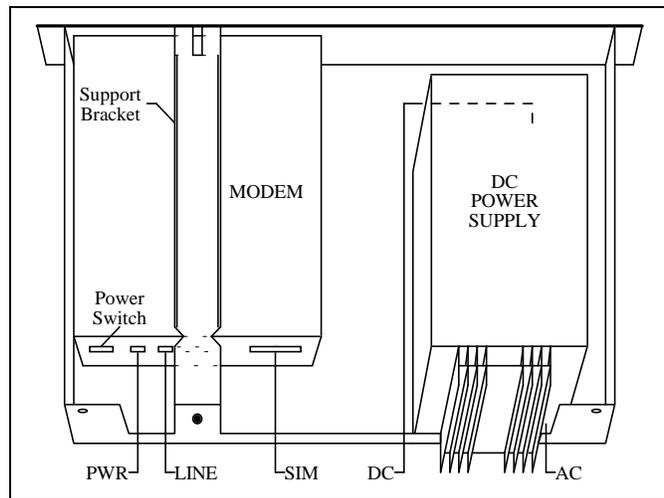
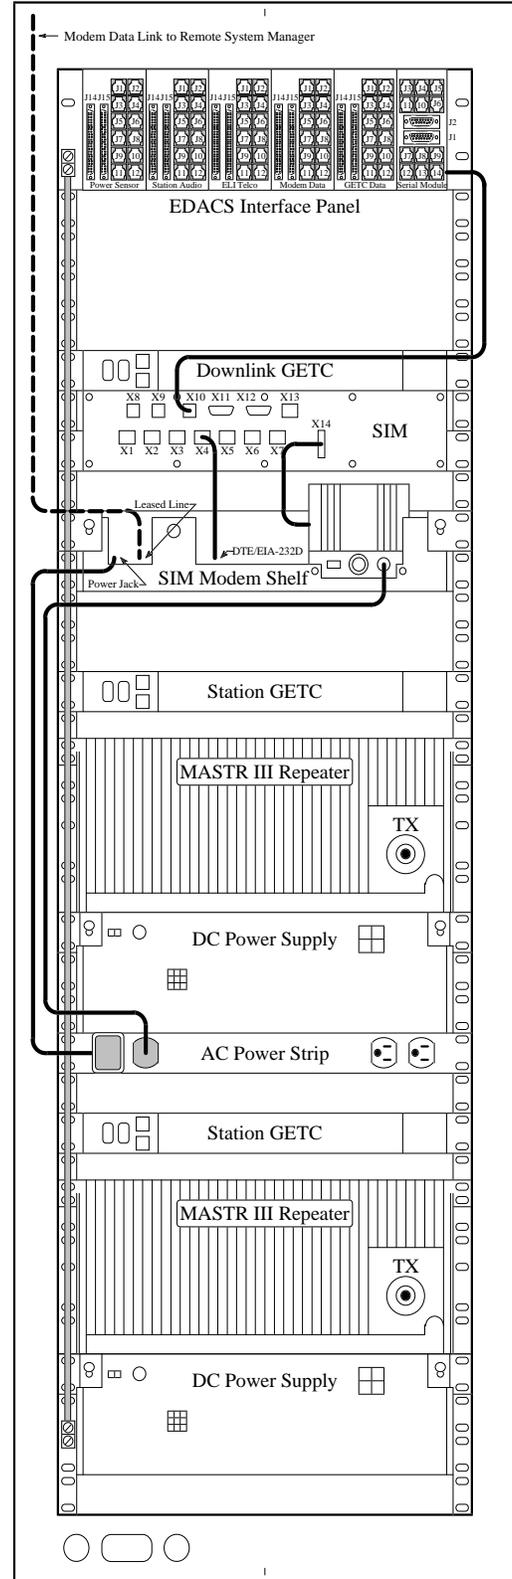

Figure 2 - SIM Modem Shelf Connections
Figure 3 - SIM Connections in Repeater Cabinet
- If the SIM Modem Shelf contains a DC power supply, connect the SIM Power Cable (part # RPM 113 2512) to the front of the power supply and route the cable to the back as shown in Figure 2.
Connect the following SIM cables. Figure 2 shows the SIM connections in the SIM Modem Shelf. Figure 3 shows the SIM connections in a repeater cabinet.